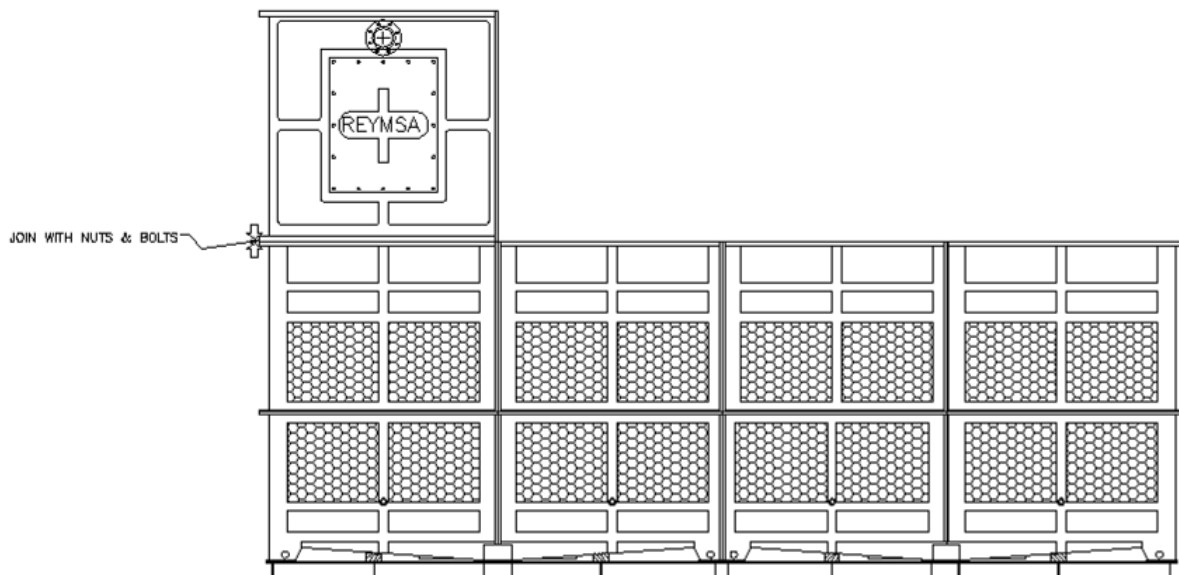

Figure A-28: Tower Body Section 1 Installation
- J. Place **Tower Body Section 1** on top of Upper Air Inlet Section 1, making sure that the bolt holes on Tower Body Section 1 are aligned with the perforations on Upper Air Inlet 1, then bolt down and secure the horizontal flanges with the stainless steel nut and bolt sets supplied by REYMSA (see Figure A-28).